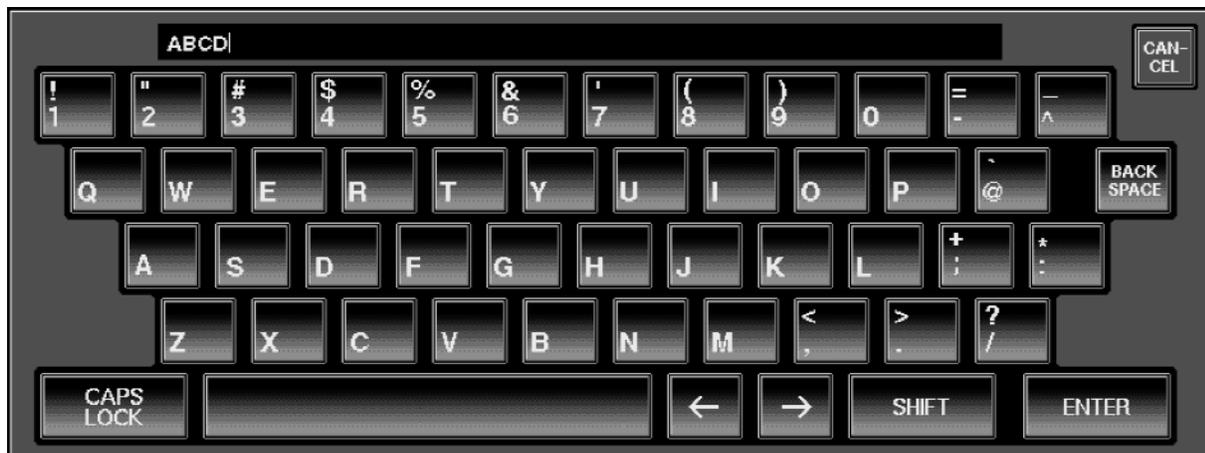

Figure 7
- 4 If you have an external keyboard connected to the DMX-R100, you can now simply type in any name of up to 23 characters in length (only the first 20 characters will appear in the Title Manager Window, however). Press the Enter key on your keyboard to complete the operation. If you do not have an external keyboard connected to the DMX-R100, press the KEYBOARD button in the upper right-hand corner of the touchscreen; the Keyboard Window will appear. (See Figure 7) Enter the desired name by pressing the onscreen "keys," then press the onscreen ENTER key to complete the operation.
- 4 If you have an external keyboard connected to the DMX-R100, you can now simply type in any name of up to 23 characters in length (only the first 20 characters will appear in the Snapshot Window). Press the Enter key on your keyboard to complete the operation. If you do not have an external keyboard connected to the DMX-R100, press the KEYBOARD button in the upper right-hand corner of the touchscreen; the Keyboard Window will appear. (See Figure 7) Enter the desired name by pressing the onscreen "keys", then press the onscreen ENTER key to complete the operation.